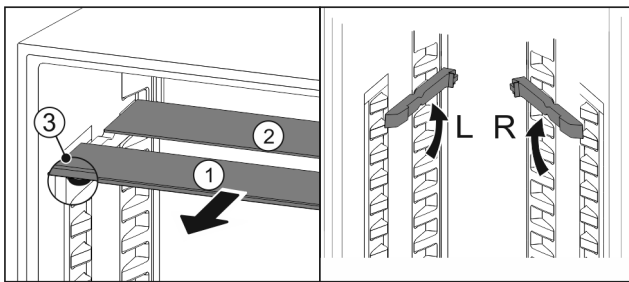

Fig. 57
- ▶ Pull the glass panels out Fig. 57 (1) from the front, one at a time.
- ▷ The glass panel Fig. 57 (1) with the trim strip is at the front.
- ▷ The stops Fig. 57 (3) point downward.